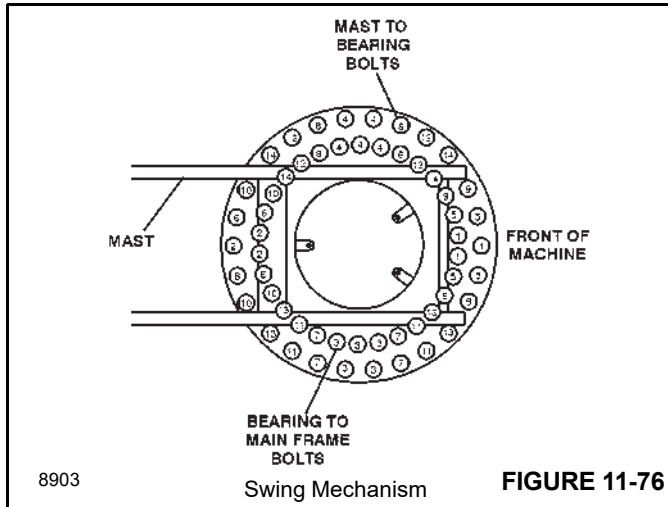

FIGURE 11-76
Use the torque sequence shown in Figure 11-76 when checking the torque on the bolts.
4. Figure 11-76 shows order of tightening the bolts. Each bolt must first be tightened to a torque of 619 Nm (455 lb-ft) and then loosened slightly. After which, each bolt must again be torqued to 619 Nm (455 lb-ft).
7. Figure 11-76 shows the order for tightening the bolts. Each bolt must first be tightened to a torque of 619 Nm (455 lb-ft), and then loosened slightly. After which, each bolt must again be tightened to a torque of 619 Nm (455 lb-ft).